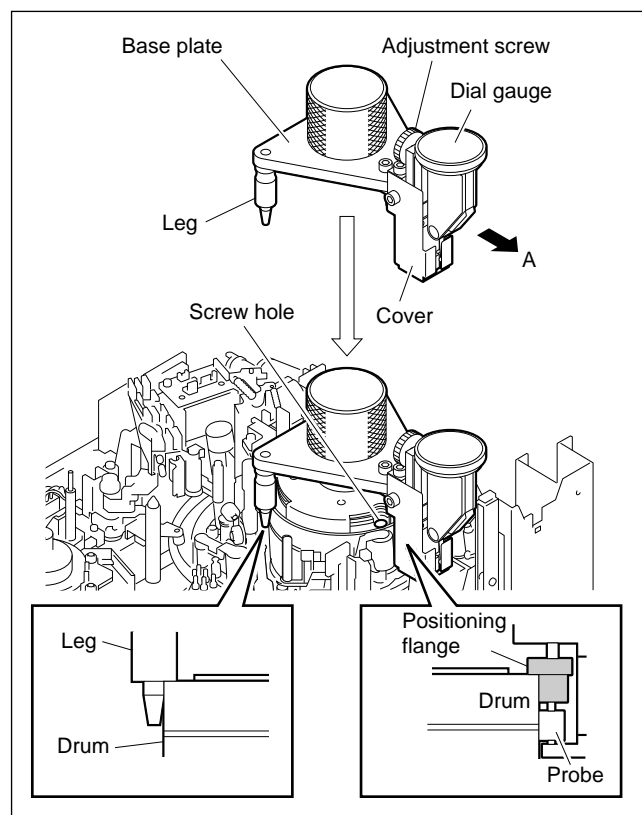

Figure 3. Setting of Head Tip Protrusion Measurement Gauge
2. Clean the probe, positioning flange, and portion touching the drum of two legs. (Refer to Figure 3.)
5. Lower the measurement gauge slowly until the ridges of the two legs and positioning flange touch the upper drum while pushing two legs against the outer circumference of the drum's upper surface (applying force slightly to the measurement gauge in the direction indicated by the arrow). (Refer to Figure 3.)
3. Lift up the positioning flange from the outer circumference of the drum's upper surface to a few millimeters, and then lift the measurement gauge slowly and remove it while pushing two legs against the outer circumference of the drum's upper surface (applying force slightly to the measurement gauge in the direction indicated by arrow A). (Refer to Figure 3.)